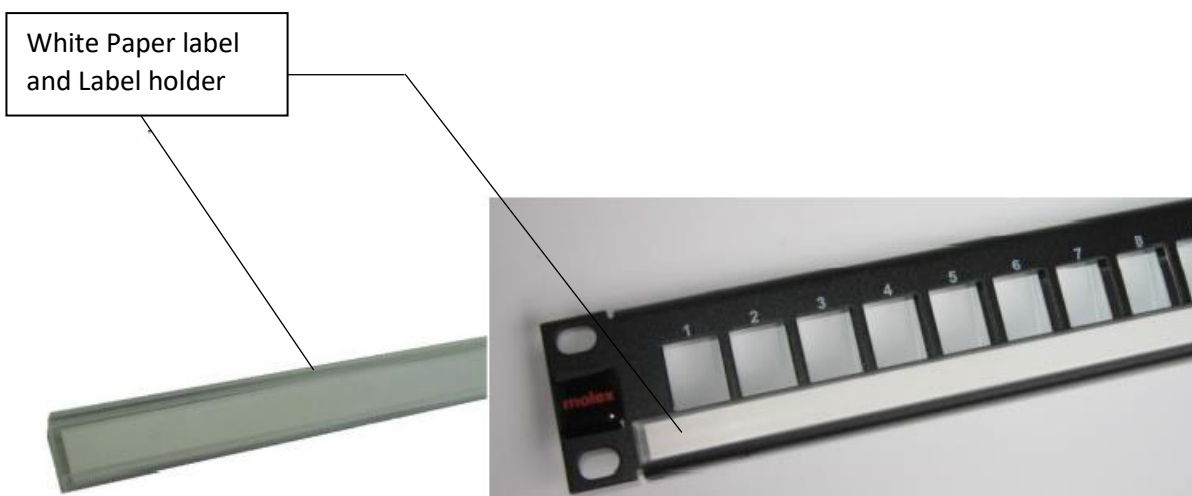

Fig.4
e) Utilize the panel labelling feature for clear patch panel identification. Slide the paper label into the label holder provided and snap into the label holder. Fig. 4